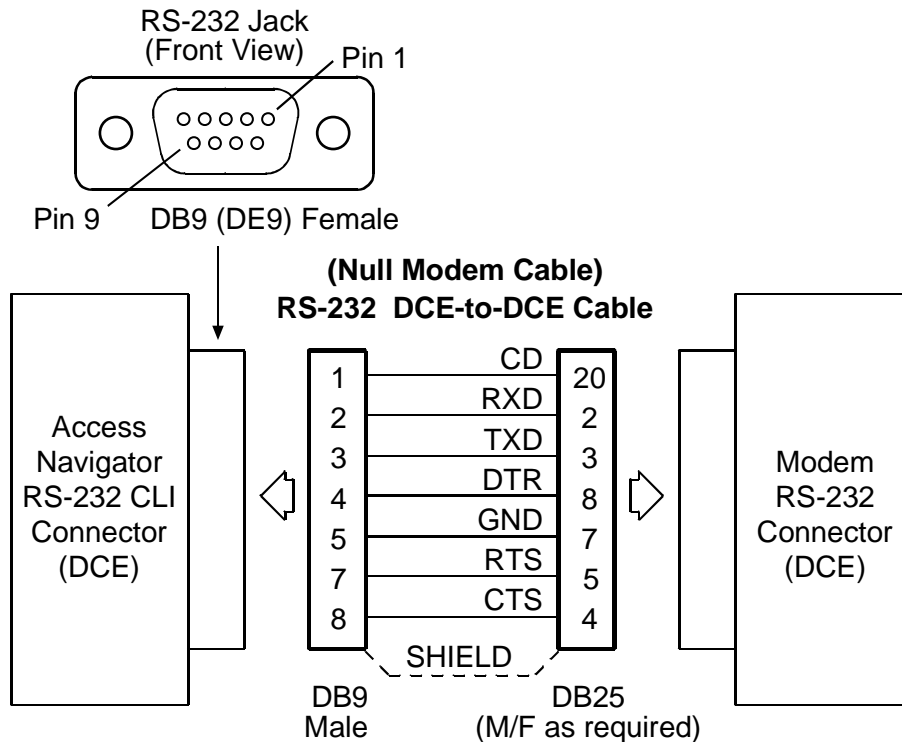

Figure 6-8. RS-232 DCE-to-DCE Modem Cable Connections
- For Modem Connection – to connect the Access Navigator to a modem for remote operation over a telephone line, you will need a pre-configured modem (see *Preconfigure Optional Modem* on page 6-21) and an RS-232 DCE-to-DCE cable (see Figure 6-8). This is also called a null modem cable. If this cable is not available, you can easily make one.